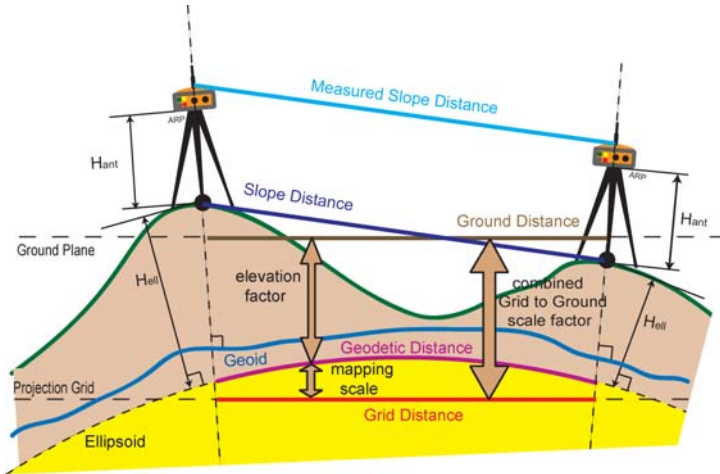

Figure 9-84. Drawing Different Distances calculated in Inverse Window
- *Geodetic Distance* – the length of the geodetic line (the shortest distance) between the two points on an ellipsoid (see Figure 9-84 on page 9-64)
- *Grid Distance* – the shortest distance between two points on a projection plane (see Figure 9-84 on page 9-64)
activated, the *Ground Distance* displays a grid distance multiplied by the scale factor calculated, taking into account the average job height (see Figure 9-84).
- *Geodetic Distance* – the length of the geodetic line (the shortest distance) between the PTL point and CoGo point on an ellipsoid (see Figure 9-84 on page 9-64).
- *Grid Distance* – the shortest distance between the PTL and CoGo points on a projection plane (see Figure 9-84 on page 9-64).
the scale factor, which is automatically calculated taking into account the height of the PTL point. If the Grid to Ground is activated, the *Ground Distance* displays a grid distance multiplied by the scale factor calculated taking into account the average job height (see Figure 9-84 on page 9-64).
- *Slope Distance* – the 3D distance between the PTL and CoGo points (see Figure 9-84 on page 9-64).